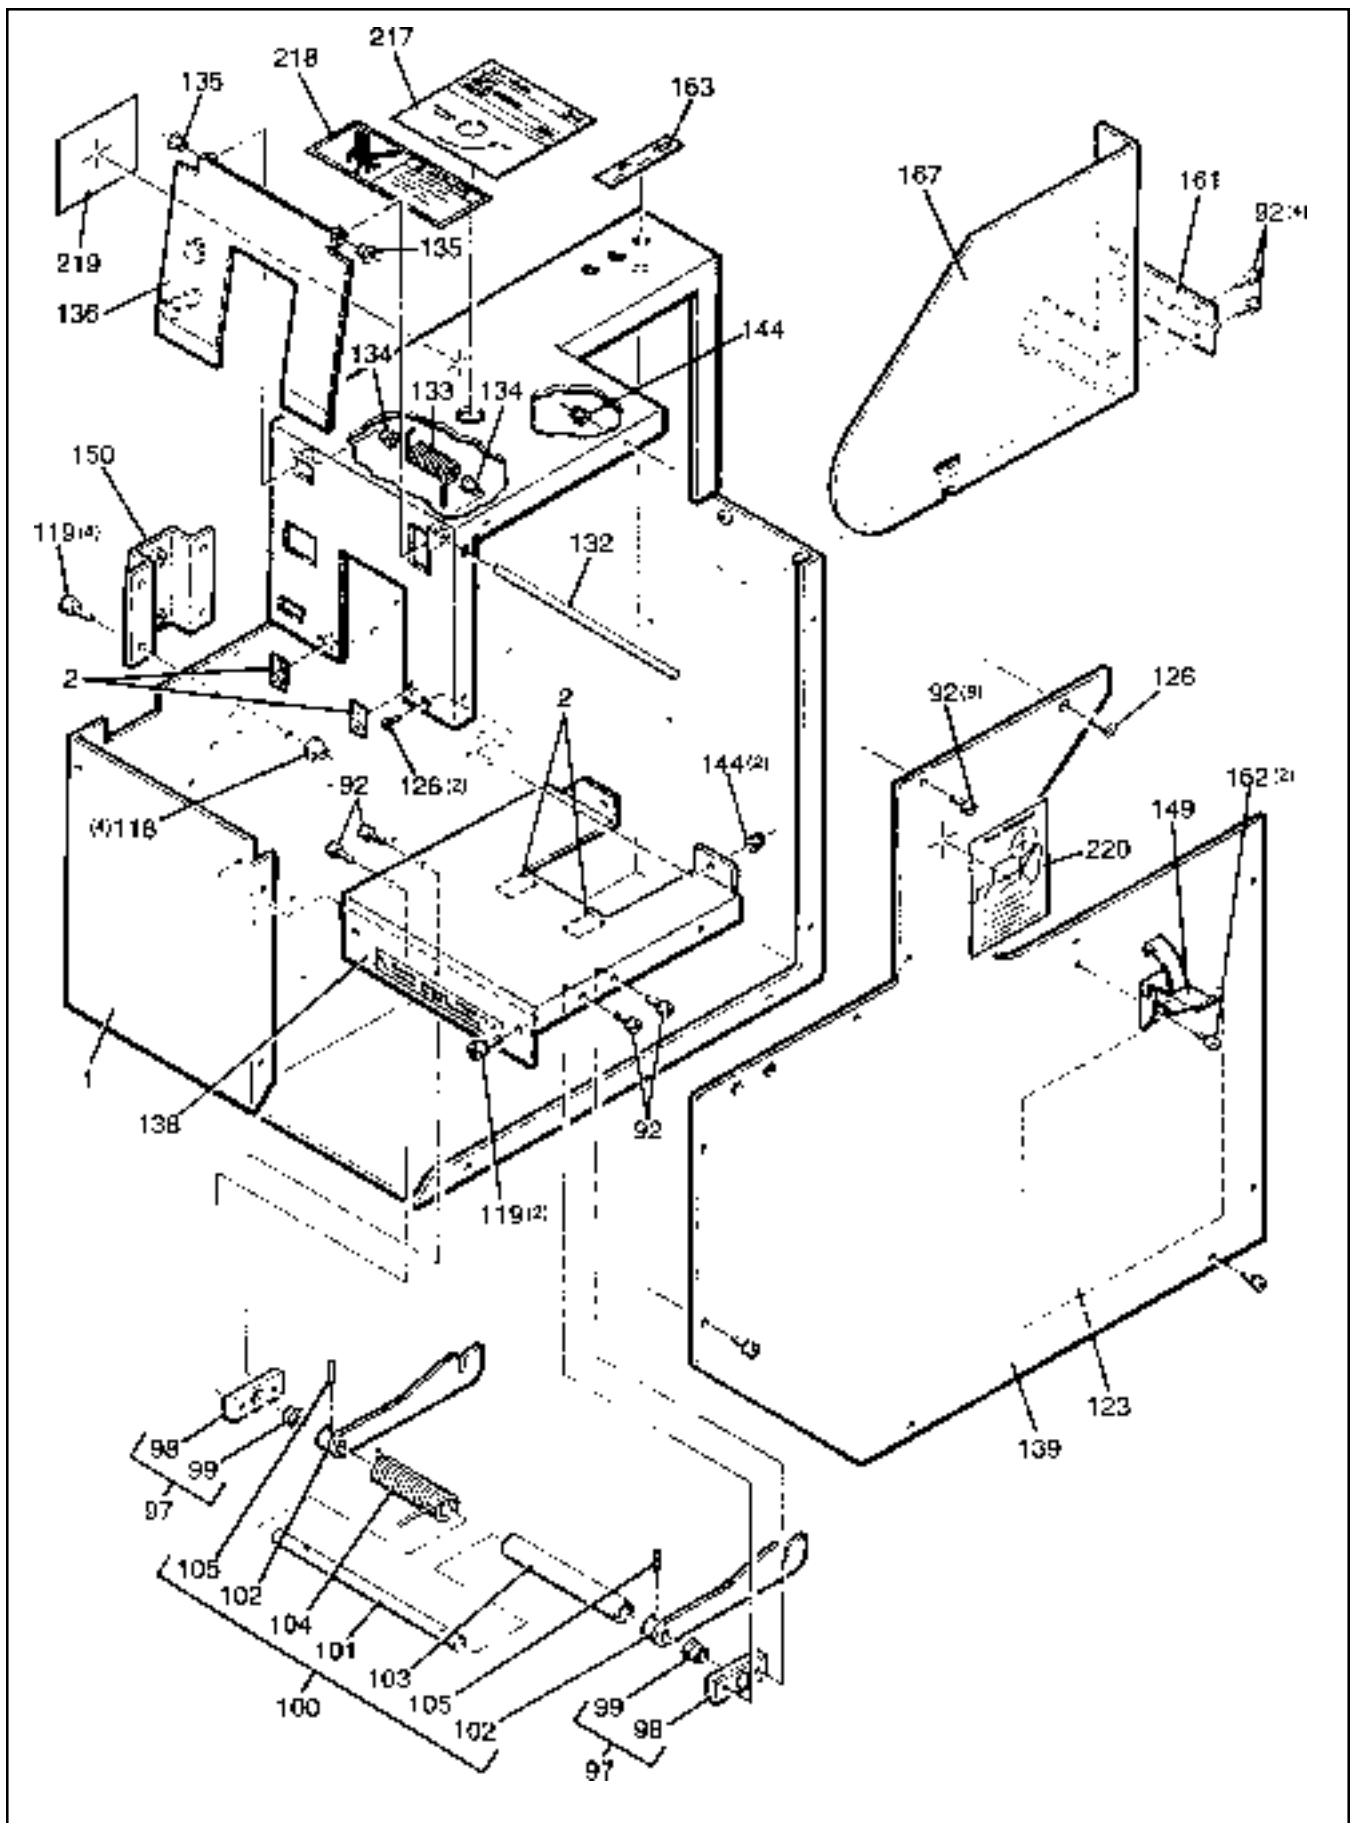

Figure 8-1 – Main Frame, Nest, Covers
1. See Figures 8-1 - 8-9, pages 24 - 32 to determine individual part and reference number.